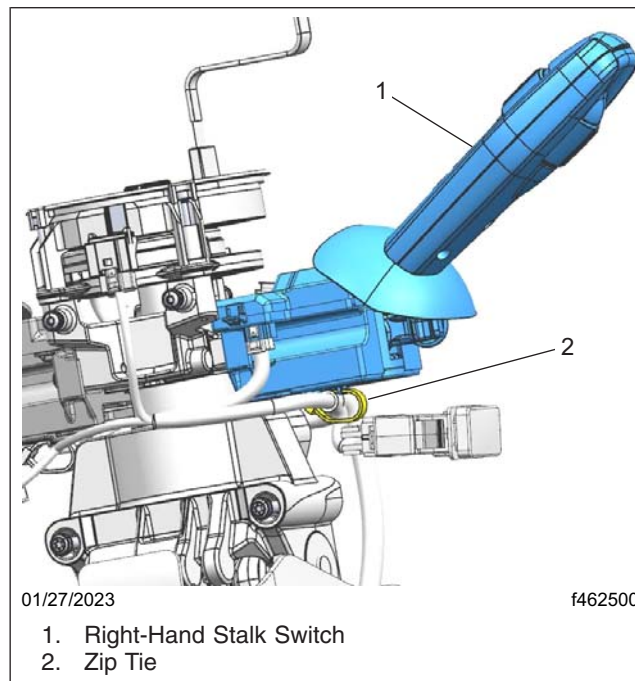

Fig. 4, Securing the Harness
10. Use a zip tie to secure the harness to the bottom of the shifter stalk, as shown in **Fig. 4**. For detailed instructions, see **Drawing D66-21611**.